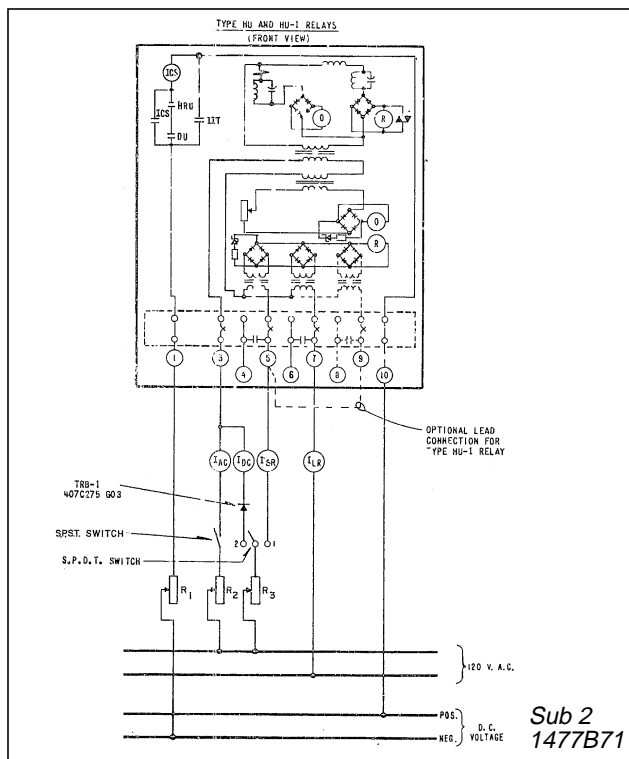

Figure 16. Test Circuit of the HU and HU-1 Relays
the relay is in proper working order. All checks can best be performed by connecting the relay per the test circuit of figure 16. **RELAY MUST BE TESTED IN CASE.**
Table 2 is to be used as an in-service check of the HU or HU-1 relay using any tap combination. This test also checks against reversed tap connections. The relay should be connected as shown in figure 16 with the SPDT switch in position 1. The ammeter I_{SR} measures the smaller restraint current and should be connected to the terminal associated with the tap block of the smaller setting. The ammeter I_{LR} measures the larger restraint current, and should be connected to the terminal associated with the larger tap block setting. Terminal 5 supplies the upper tap block; terminal 7 supplies the second tap block; and terminal 9 (HU-1 only) supplies the lower tap block (refer to figures 3 and 4).
1. Polarization Test - Connect the relay per test circuit of figure 16. Close SPDT switch to position 2 and open SPST switch ($I_{ac} = 0$). Pass $I_{dc} = 0.8$ times tap value current (4 amperes dc on 5 ampere tap) into the relay.